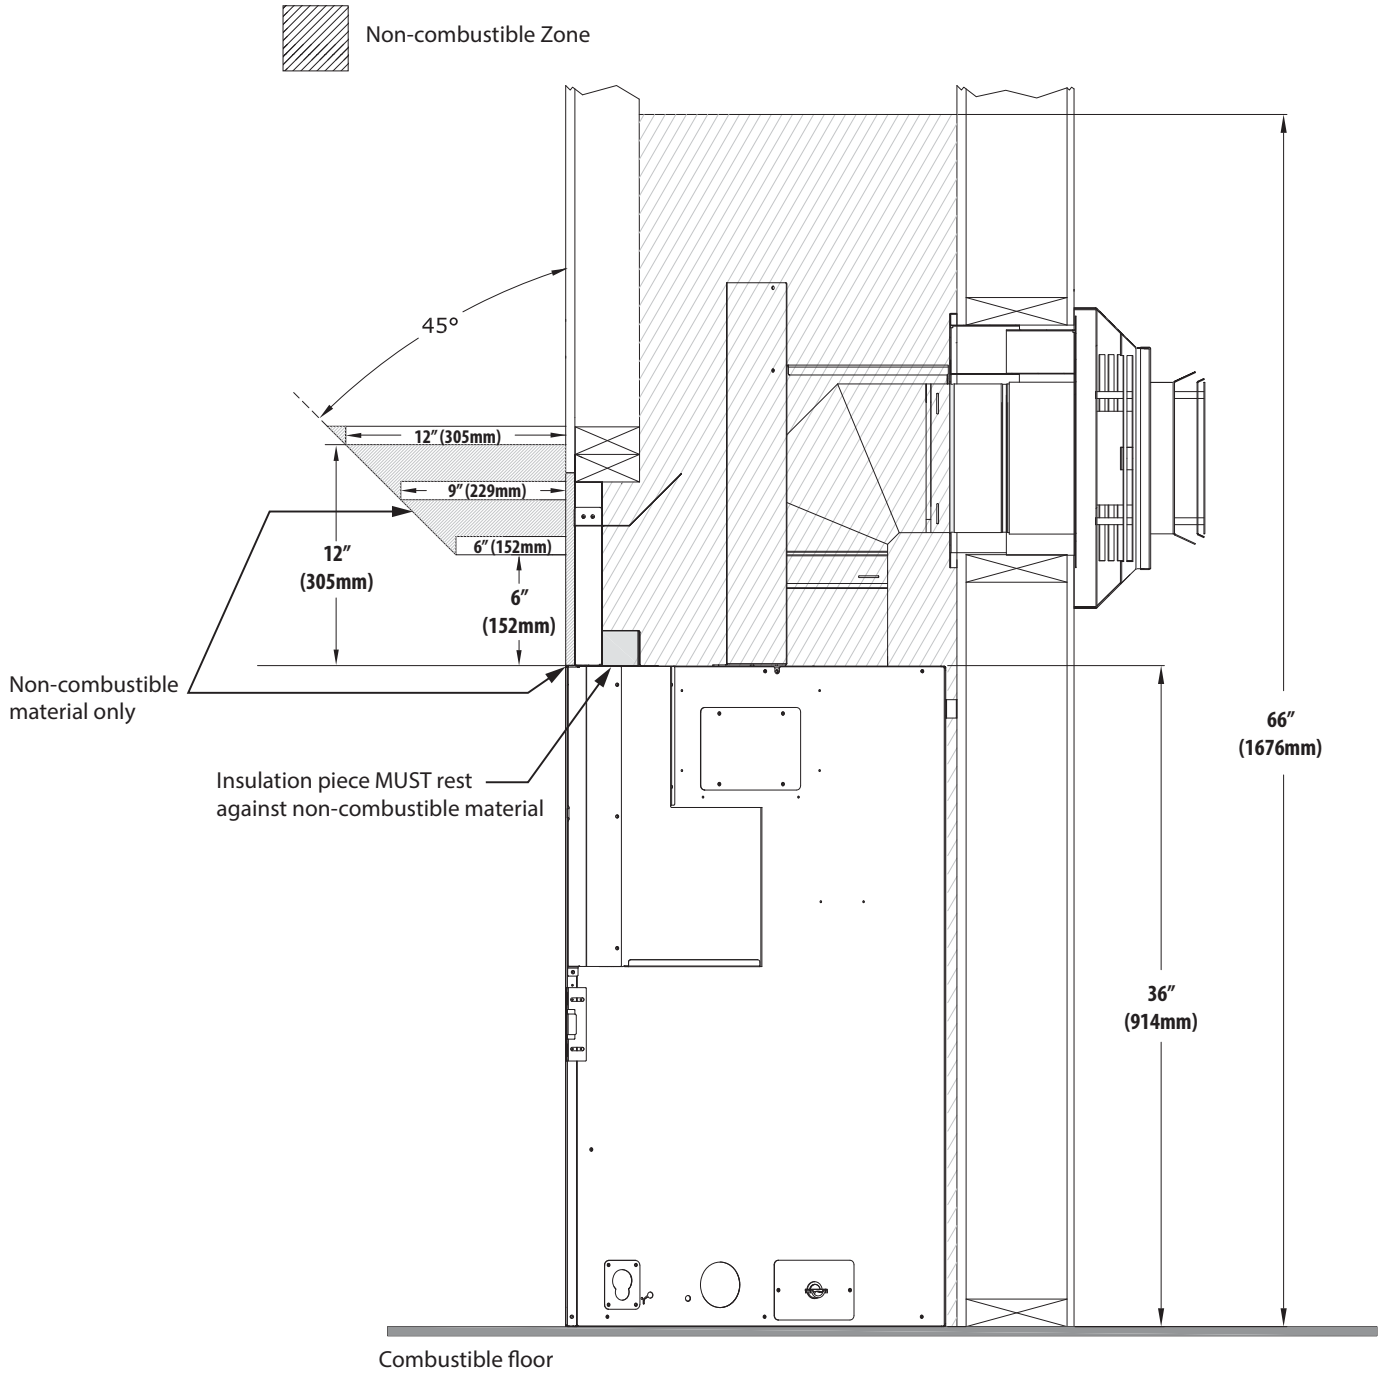

Figure 4.2, Non-combustible Mantel Requirements
- **Non-combustible Mantel Projections** - Minimum Vertical and Maximum Horizontal: A minimum vertical clearance of 6" (152mm) above the top of the appliance to a maximum 6" (152mm) depth of a non-combustible mantel. Follow projection 1" (25mm) up for every 1" (25mm) deeper. See Figure 4.2 on page 24.